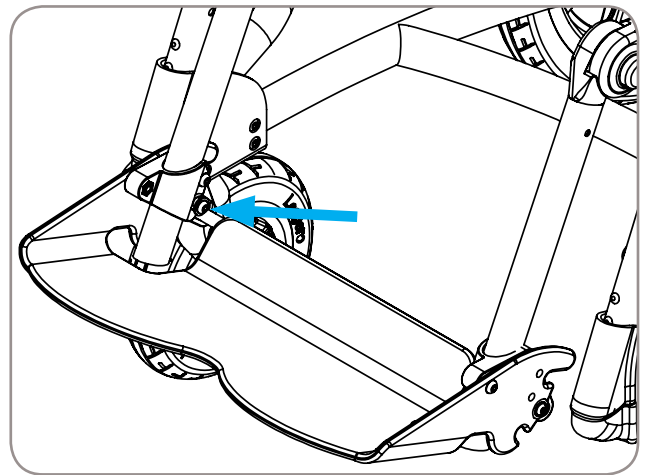

Figure 13
1. Loosen bolts on inside of clamps with 4mm hex wrench, 2 bolts per side. Reference Figure 13.